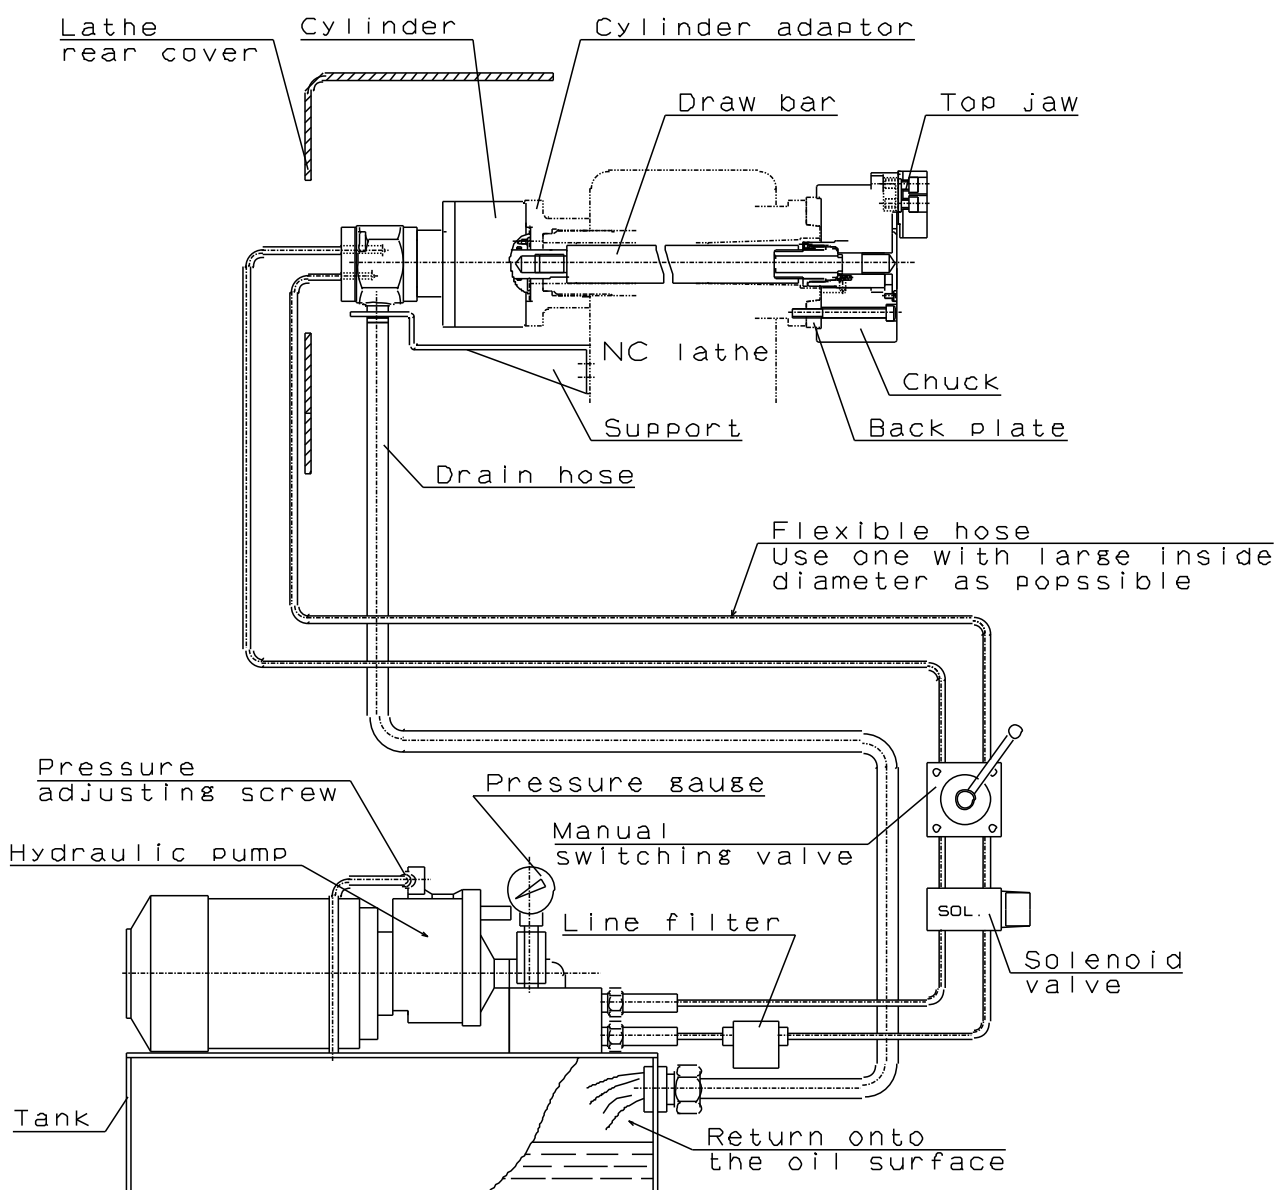

Fig.13
- The end of the hose is physically above the oil level. (Refer to Fig.13)